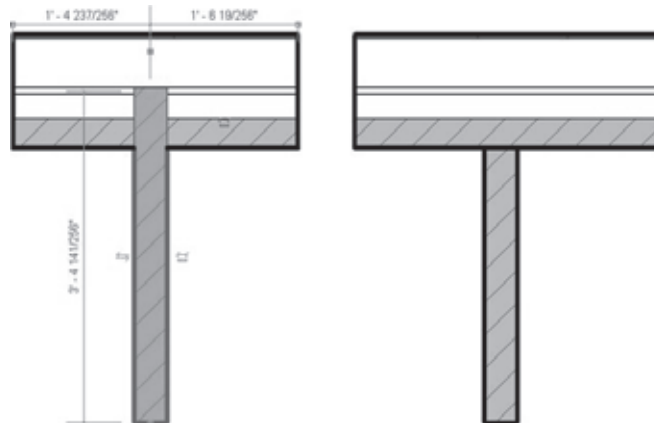

Figure 6.8
*Disallow Join* is another tool designed to provide more flexibility in wall-join behavior. If you select a partition wall that cleans up with your exterior wall but that isn't the desired behavior for that partition wall, you can right-click the blue control dot at the end of the wall and select *Disallow Join* from the context menu. Doing so breaks the autojoin cleanup. Figure 6.8 shows the walls intersecting in a *Disallow Join*